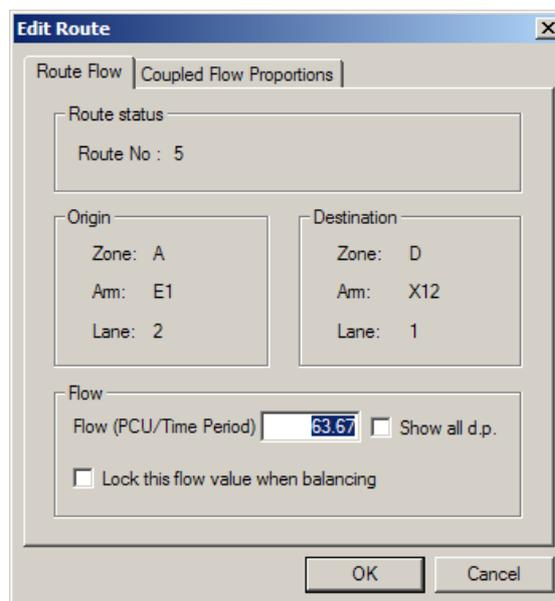

Figure 4.7 : The Edit Route Dialog Box
- With a Route selected in the Route Manager, choose 'Edit Selected Route' either from the Route menu, or by right clicking on the Route. The Edit Route dialog box will appear as shown in Figure 4.7.